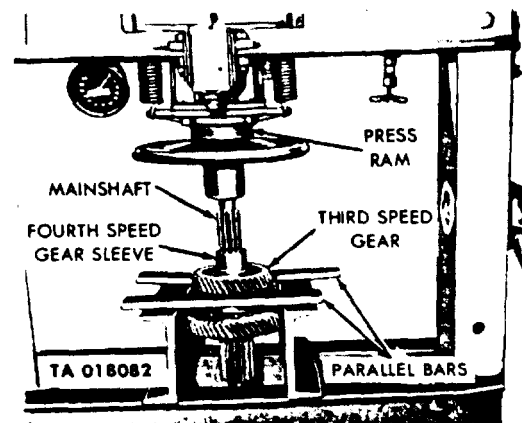

Figure 3-35. Removal of Third-Speed Gear and Fourth-Speed Gear Sleeve.
(2) Set up fixture as shown in figure 3-35. Apply pressure from the press ram and remove fourth-speed gear sleeve and third-speed gear.
(2) Coat the fourth-speed gear sleeve and mainshaft with white lead. Fed Spec TT-W-261C. Make an opening in the adapter puller large enough to slip through. Position the third-speed gear and fourth-speed gear sleeve to main drive shaft and press into place. See figure 3-35 for the correct positioning of third-speed gear and fourth-speed gear sleeve.
(3) Install mainshaft fourth-speed gear and thrust washer. Secure in place using a new snapping.